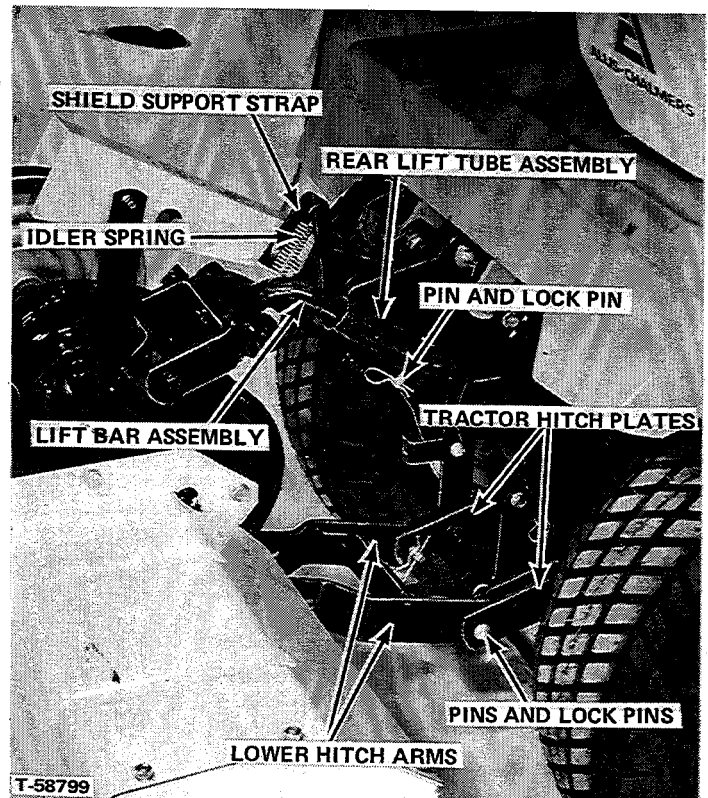

FIGURE 6
4. Lower the rear hitch of the tractor. Position the tiller at rear of tractor. Insert tiller lift bar assembly into tractor rear lift tube assembly and secure with pin and lock pin as shown in Figure 6.
5. Raise tractor rear lift as needed and insert tiller lower hitch arms between the tractor hitch plate and install pins and lock pins, (Figure 6).
4. Remove pin and lock pin and remove tiller lift bar assembly from the tractor rear lift tube (Figure 6).